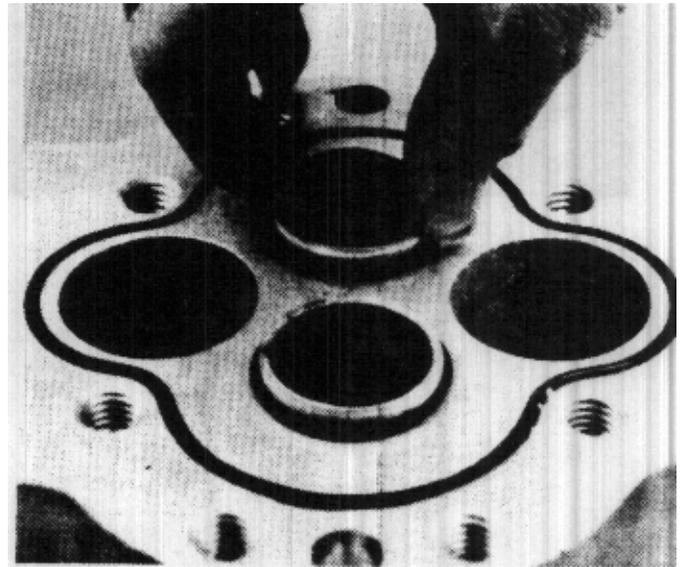

FIGURE 100
39. Pick up valve body (3). Turn it so that the side which has the bearings extended will face up. Apply enough clean, heavy grease in the o-ring groove to hold the o-ring in place after the plate has been turned over. Install o-ring (34). Install an o-ring (35) down on each protruding end of the bearings. (Fig. 100)